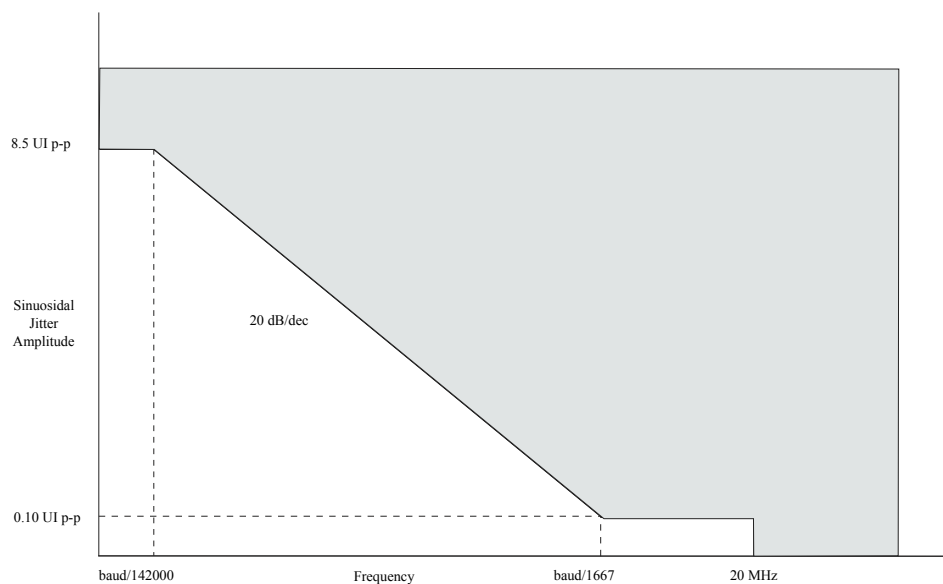

Figure 58. Single-frequency sinusoidal jitter limits
1. See Figure 58.
1. Measured at receiver. 2. Total jitter is composed of three components: deterministic jitter, random jitter, and single frequency sinusoidal jitter. The sinusoidal jitter may have any amplitude and frequency in the unshaded region of the Single-frequency sinusoidal jitter limits figure shown below. The sinusoidal jitter component is included to ensure margin for low frequency jitter, wander, noise, crosstalk and other variable system effects. 3. See Figure 58.